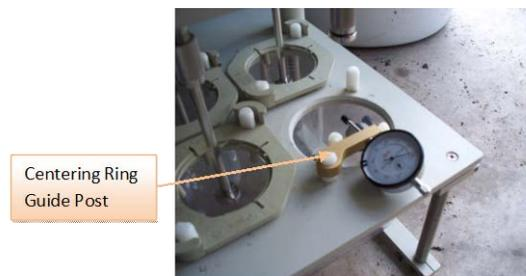

Figure 6
4.4.2.2 Place the indicator assembly onto the centering ring guide post as shown in Figure 6.
4.5.2.2 Place the indicator assembly onto the centering ring guide post as shown in Figure 6.
4.6.2.2 Place the indicator assembly onto the centering ring guide post as shown in Figure 6.